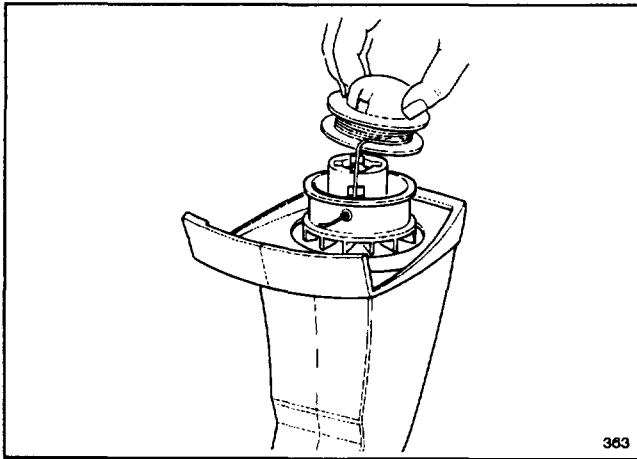

Figure 13
- D. The spool and the core are keyed. Be sure they are properly aligned with eyelet when putting spool back on. Thread end of line through eyelet, place spool on keyed core, and push in place until you hear it click. Pull line free from groove in spool. Unwind no more than 3 inches from spool (Fig. 13).